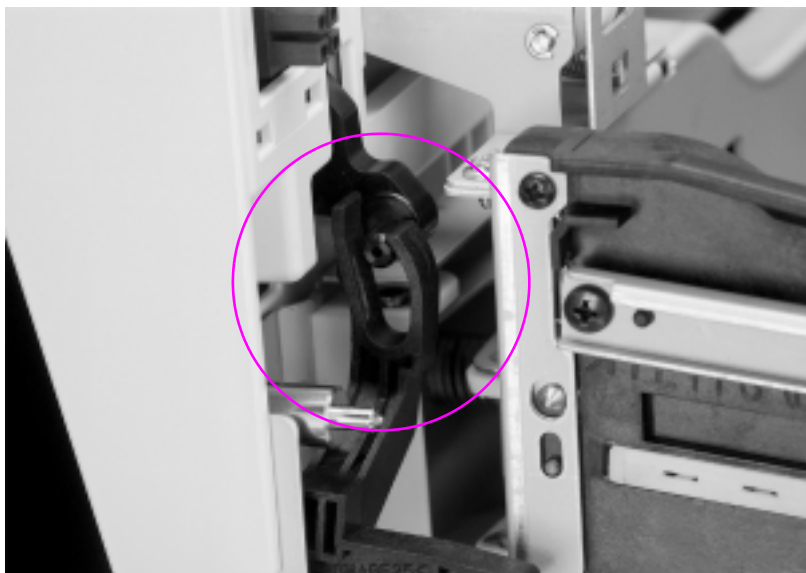

Figure 6-8
- 4 Tilt the top of the cover away from the upper drawer and carefully release the two black plastic retaining tabs from the two black plastic levers (Figure 6-8).
- When replacing the upper front drawer cover, carefully insert the black plastic tabs into the black plastic levers (Figure 6-8).